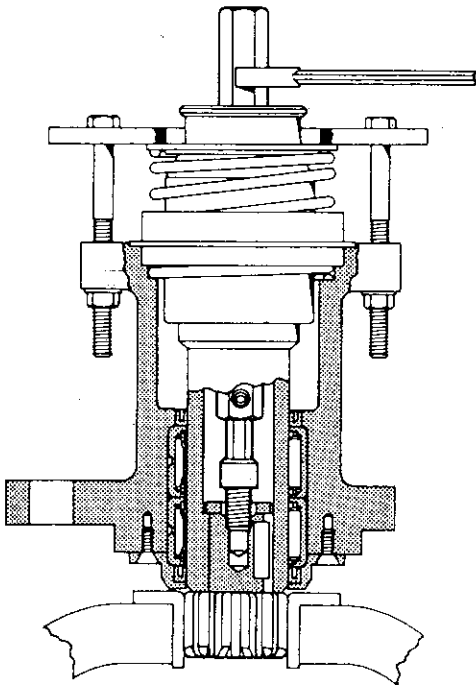

Figure 4.29
29. Apply Loctite screw lock No. 271 to pinion screw thread (29) and install screw using Tool No. 20796. Tighten to 508 - 620 in. lbs. (57.4 - 70.1 N·m). See Figure 4.29. Remove Tool No. 22776.